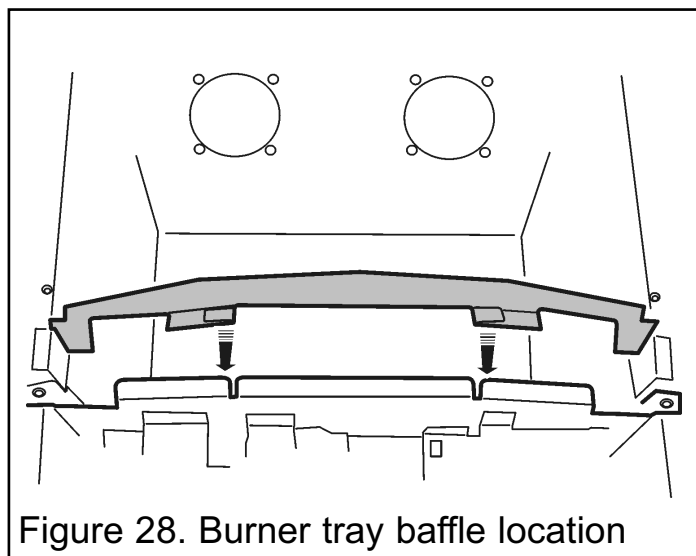

Figure 28. Burner tray baffle location
5. Dream, Petrus and Trueflame only - Fit the burner baffle to the front flanges of the burner. To do this, locate the tags on the baffle over the front flanges of the burner and lower into position (See figure 28).